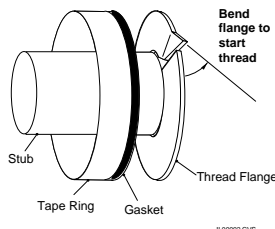

FIG. 3
STEP 3. Bend the starting edge of the spin-in takeoff thread flange as shown in Fig. 3. Then twist the spin-in into the hole.